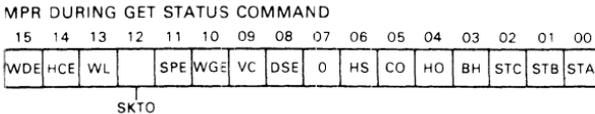

Figure 10 MPR Status Word
*MPR During a Get Status Command* – When a get status command is executed and a status word is returned to the controller, the MPR (FIFO output stage) format is as shown in Figure 10 and described in Table 7.